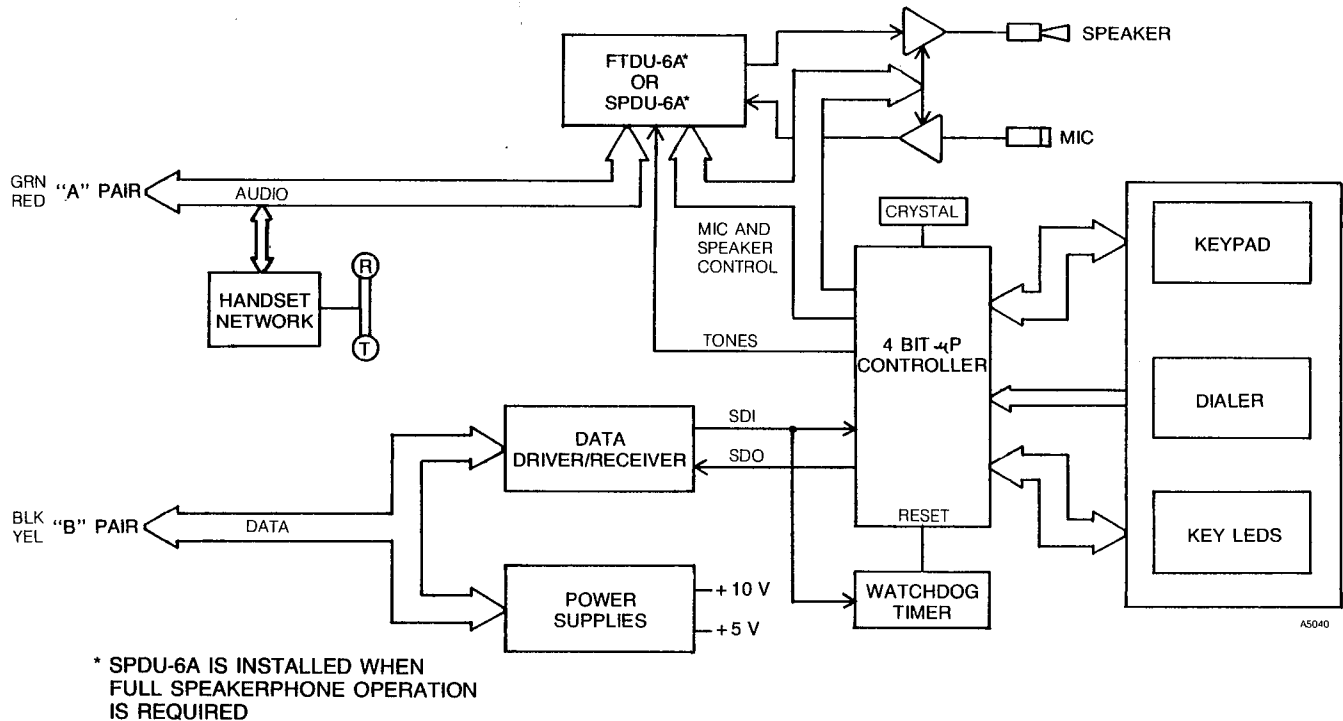

Figure 7-11 STANDARD KEY TELEPHONE BLOCK DIAGRAM, EK-616
**8.01** The Standard Key Telephone (Figure 7-11) is a multifunction, microprocessor based key telephone instrument. The telephone has a handset; a microphone and speaker for Handsfree functions; a dial pad; and special keys for CO lines and special functions. Most keys use LEDs to indicate key status.